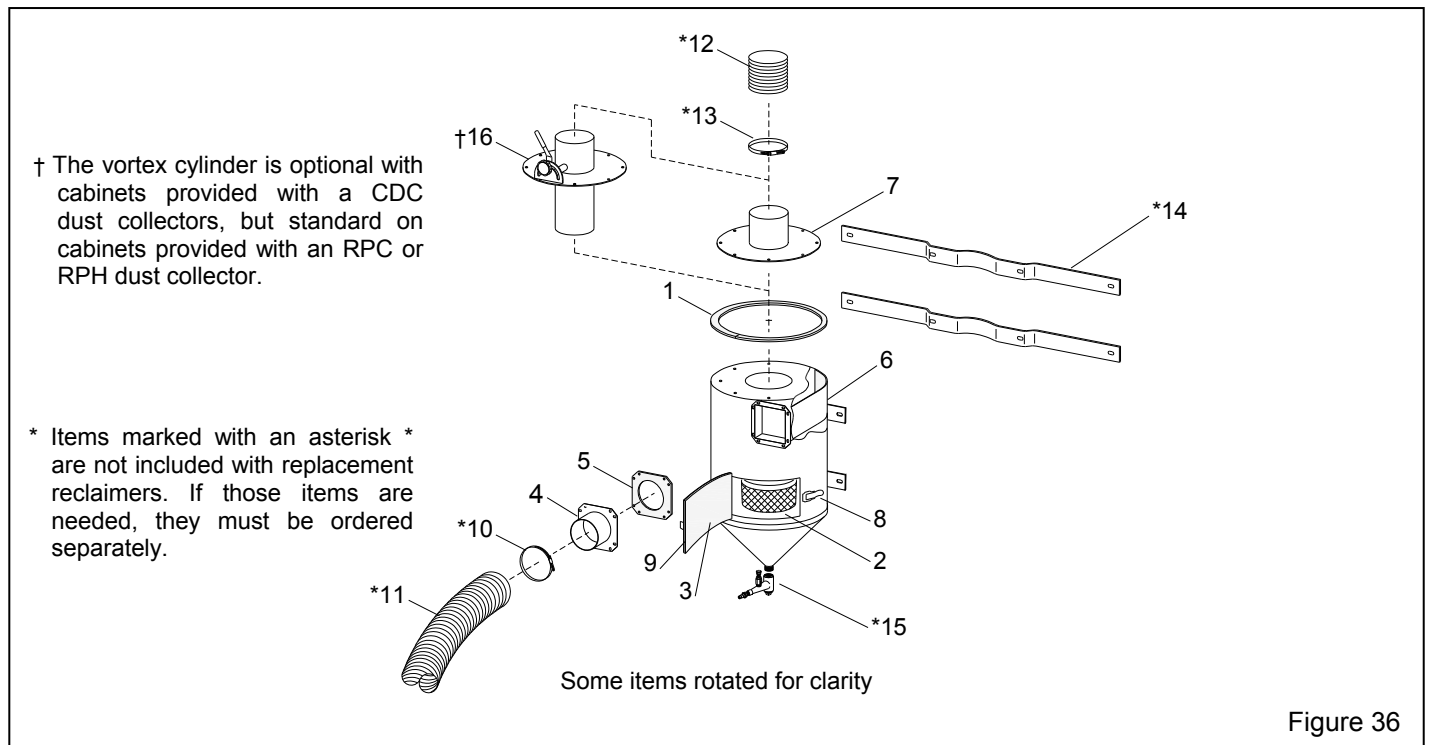

Figure 36
9.11 300 and 600 CFM Reclaimer Replacement Parts, Figure 36